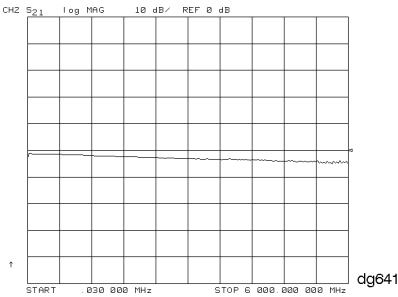
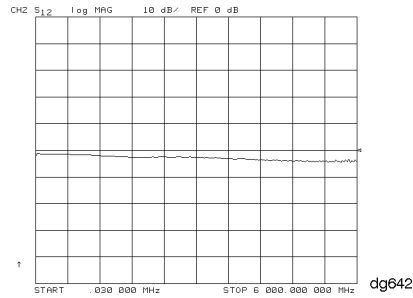

Figure 1-20. Forward Transmission Display
Figure 1-21. Reverse Transmission Display
- 9 Press CH2 to check the forward transmission mode for channel 2. Look at the measurement trace displayed on the analyzer. It should be similar to the trace shown in Figure 1-20.
The analyzer display shown in Figure 1-20 and Figure 1-21 are Agilent 8702D Option 011, Option 006 displays (30 kHz to 6 GHz span).
- 10 Press MEAS and then *Trans: E/E S12 REV* to check the reverse transmission mode for channel 2. The measurement trace should be similar to the trace shown in Figure 1-21.